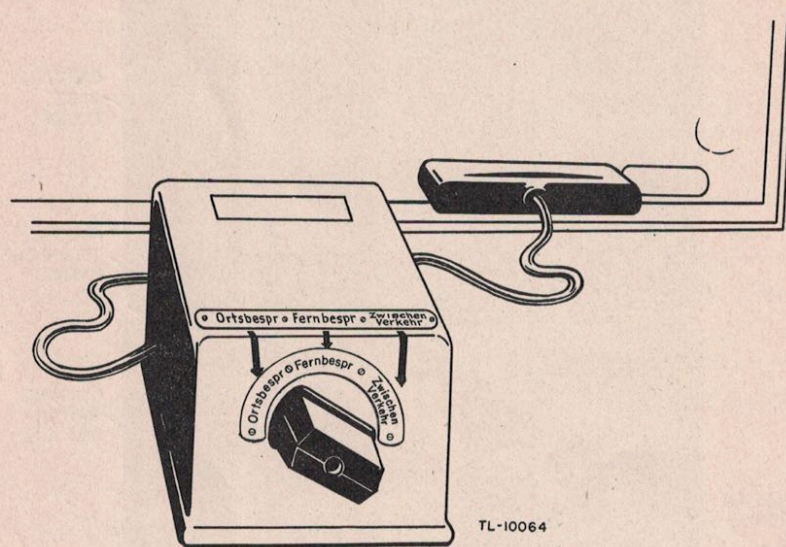

Figure 7. Control switch box for remote operation of German radio sets Torn. Fu. b1. and Torn. Fu. f.
c. Operation. (1) Set up the equipment as indicated in paragraphs 2e and 5b.
(2) The control switch box is equipped with a switch which selects any one of three types of operation (fig. 7).
(3) For operation of the transmitter from the transmitter location, place the selector switch of the control switch box on **Ortsbespr.** (local) position. In this position, the local transmitter operator puts the transmitter carrier on when he presses his microphone